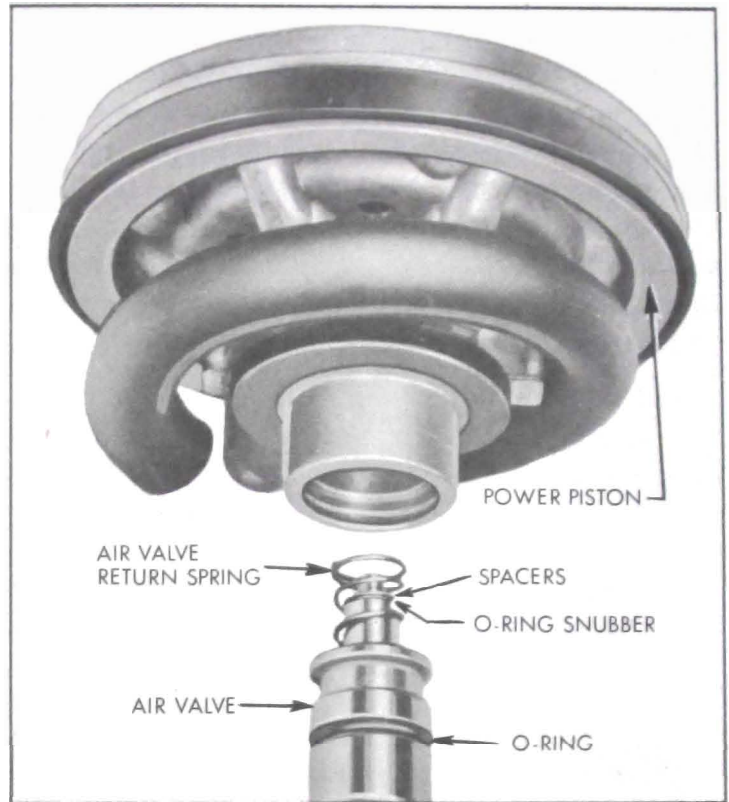

Figure 9-17—Removing or Installing Air Valve Assembly
6. Hold power piston assembly with push rod down and pull out push rod and air valve. See figure 9-17. Lift off the spring, spacers (note number of spacers), and O-ring snubber. Remove O-ring from O.D. of air valve.